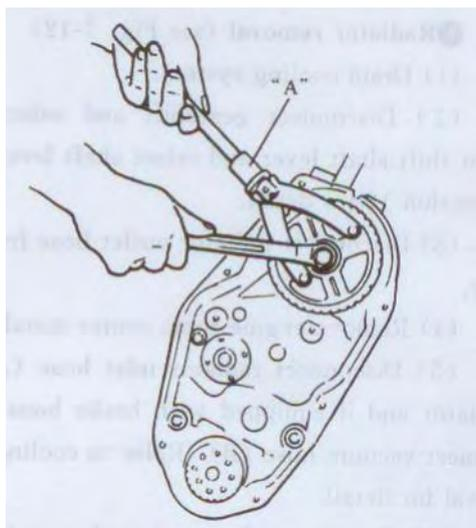

FIG.6-17 (see fig.7-18 of service manual for HFJ6351B)
(7) Remove belt tensioner.
(8) Remove camshaft timing belt pulley using special tool "A" ( FIG.6-17)